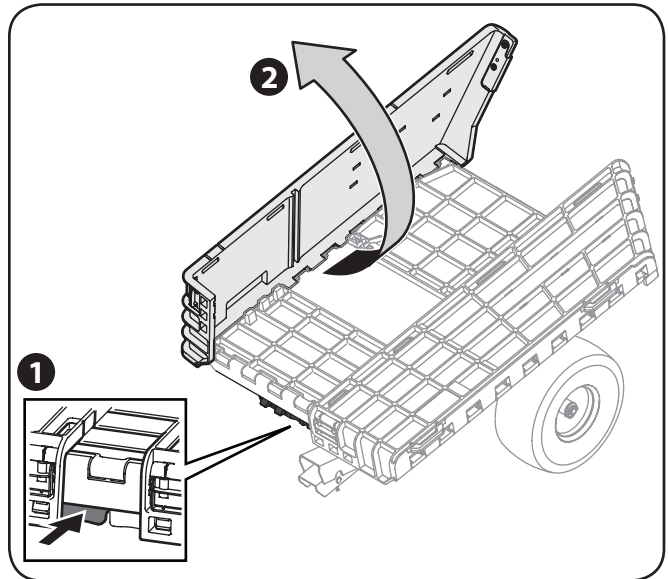

Figure 3-5
- Locate the panel latch on the front of the hauler. Push the panel latch inward and raise the sides of the hauler bed. See Figure 3-5.